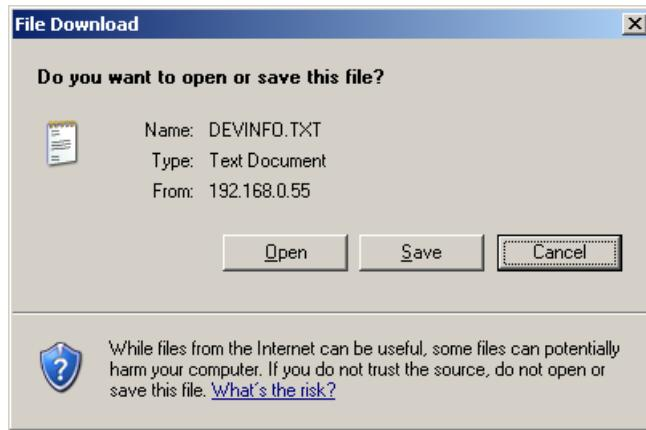

Figure 7-11 File Download Dialog
- ❖ In the **File download** dialog (see Figure 7-11), click the **Open** button.